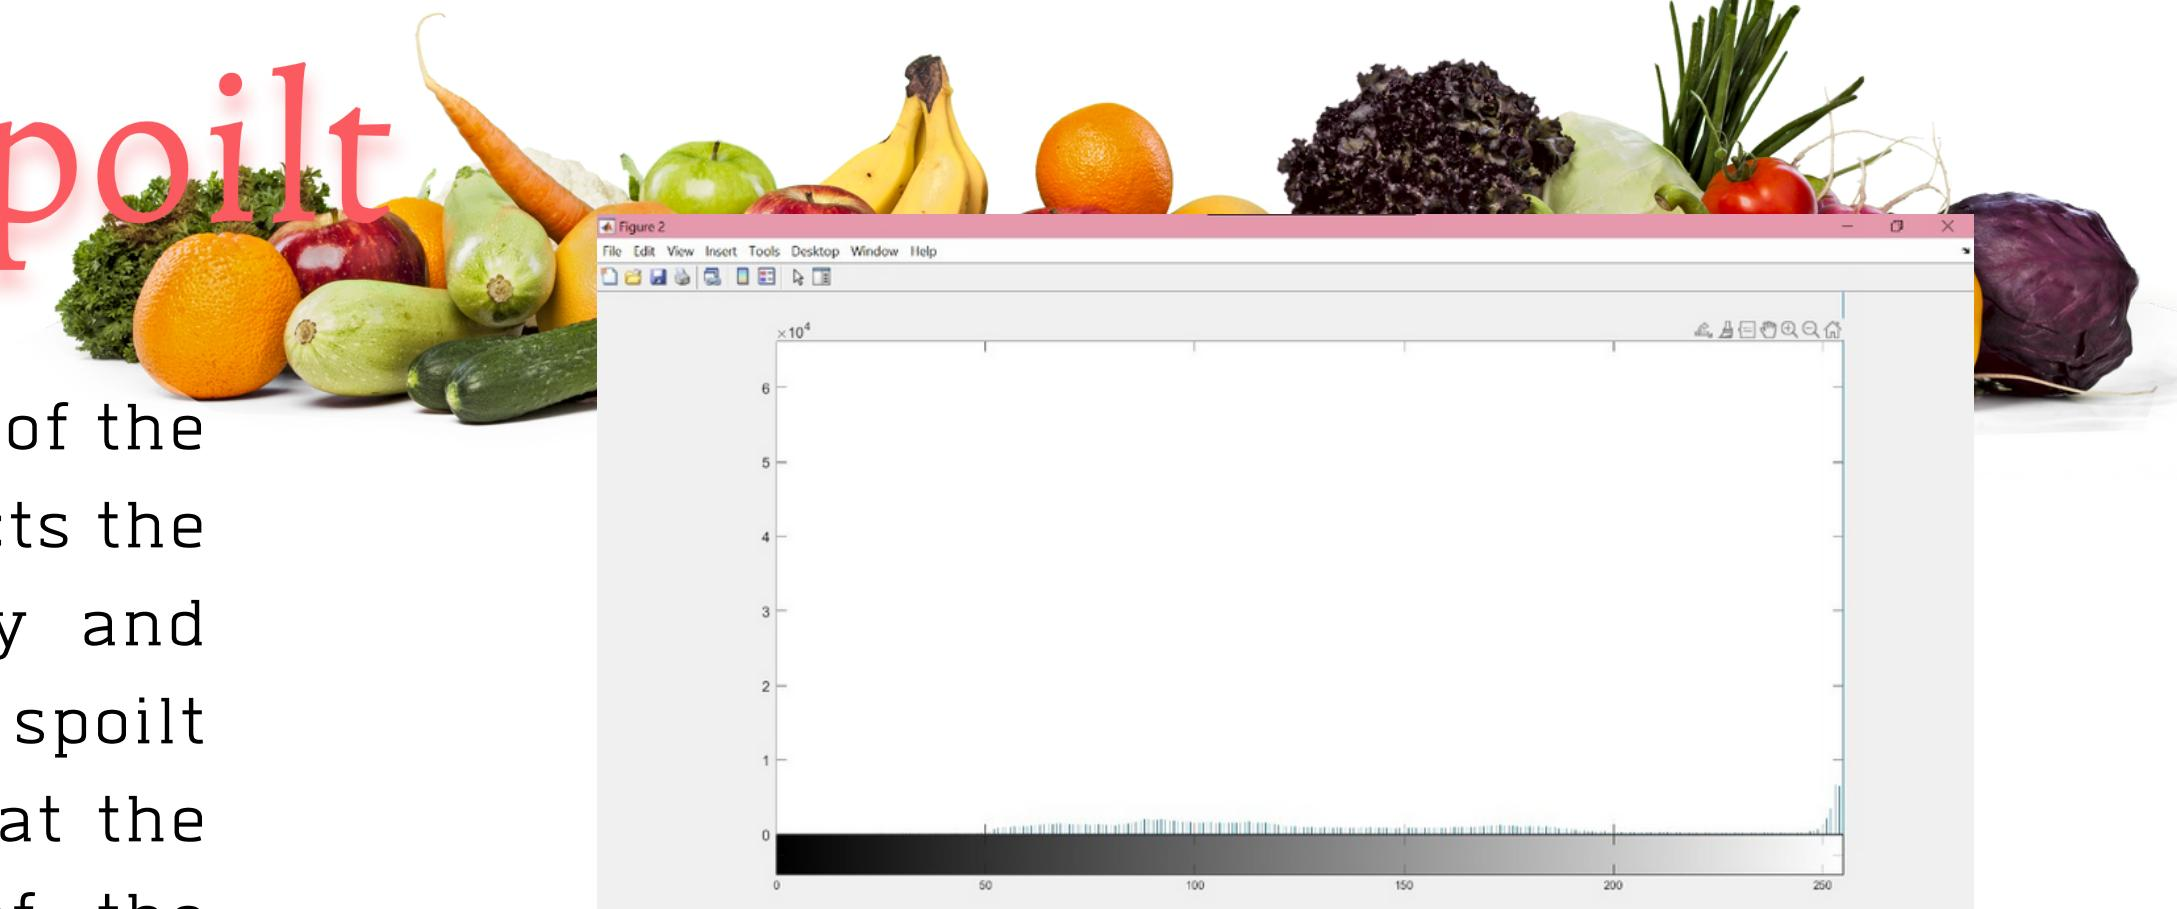
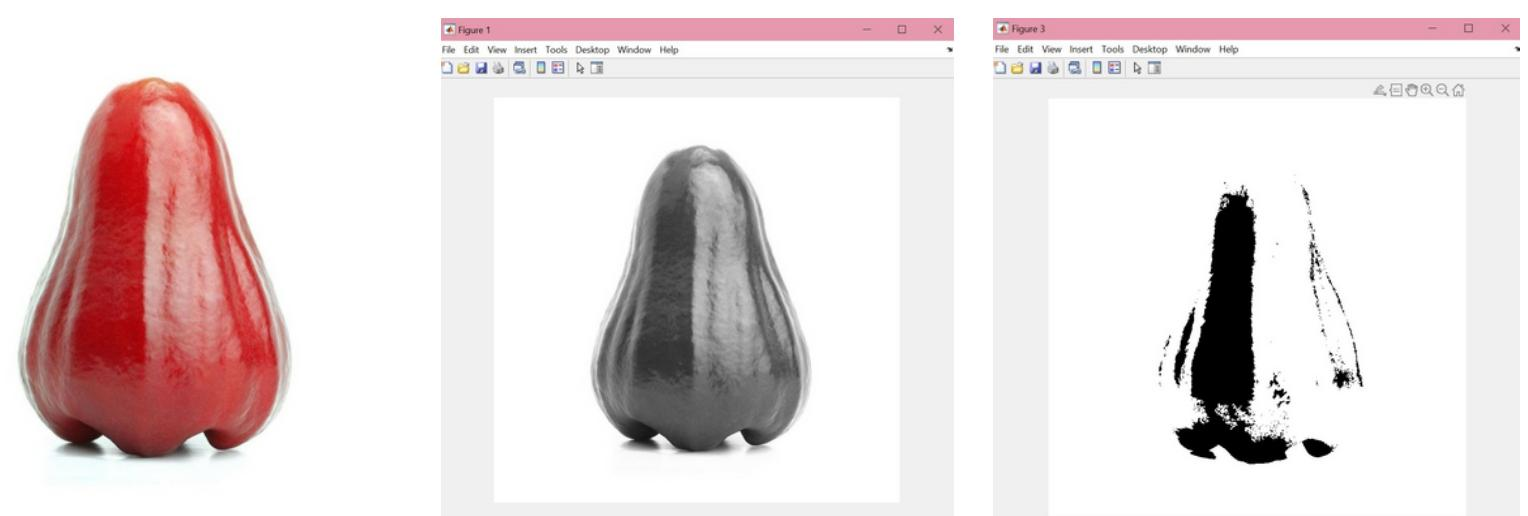

Figure 4: Histogram equalization of the image used
Figure 5: The original image (left), the image in grayscale (middle) and the image in binary
- Figure 4 shows the histogram equalization of the middle image in Figure 5. The system detects the difference in the area of pixel intensity and calculates it to determine whether a fruit is spoilt or not. Based on the graph we can see that the area of distribution on the left side of the histogram is small.
- Figure 5 shows the original image (left), the image converted into grayscale (middle) and the binarized form of the image (right).
- Figure 6 shows a message that tells us that the fruit is not spoilt. As we can visibly see in the leftmost image in figure 5, this is correctly interpreted. Thus this shows that this method can be used to determine whether a fruit is spoilt or not.